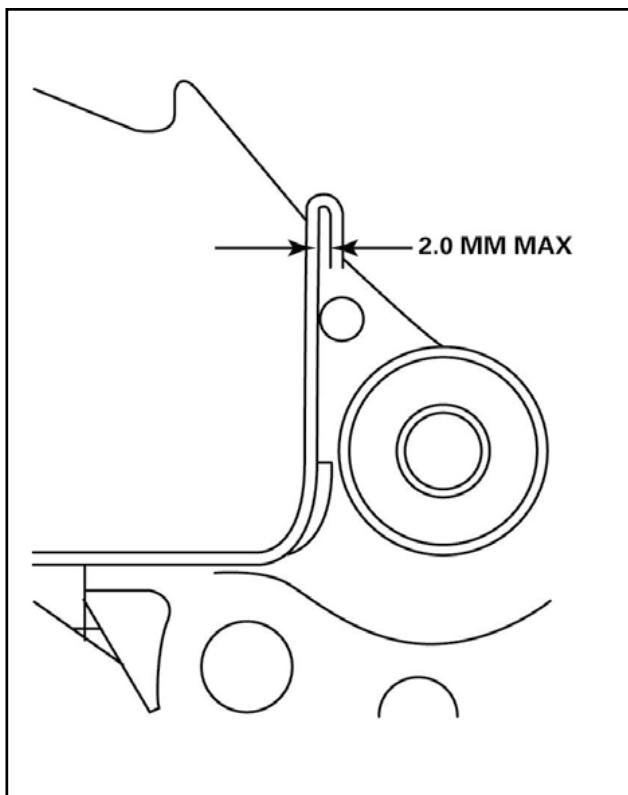

Figure 21
- With the disc pads installed in the carrier, measure the amount of clearance between the disc pads and the carrier abutment surfaces. The maximum permissible clearance due to disc pad wear and/or carrier abutment wear is 2.0 mm max. (See **Figure 21**.)
- For feeler gauge inspection, insert a feeler gage between the pad backing plate and its mating surface. Normal operating clearance should be between 0.5 mm (0.020") and 1 mm (0.040"). If the caliper slides more than 2 mm (0.080") the brake is out of adjustment and requires further inspection or replacement. (See **Figure 21** as shown previously).